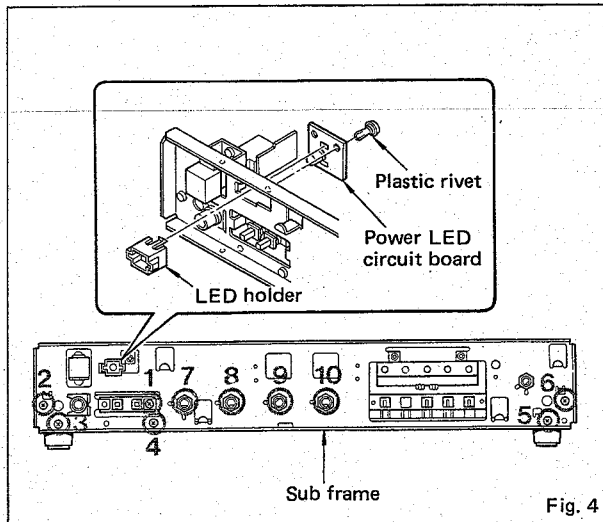

Fig. 4
- b. Remove the power LED circuit board by removing the LED holder and plastic rivet as shown in fig. 4.
- c. Remove screw ① and headphone jack attaching plate in fig. 4, and remove the speaker switch circuit board.
- d. Remove hexagonal nuts ⑦ through ⑩ in fig. 4.
- e. Remove screws ② through ⑥ in fig. 4 and then remove the sub frame.